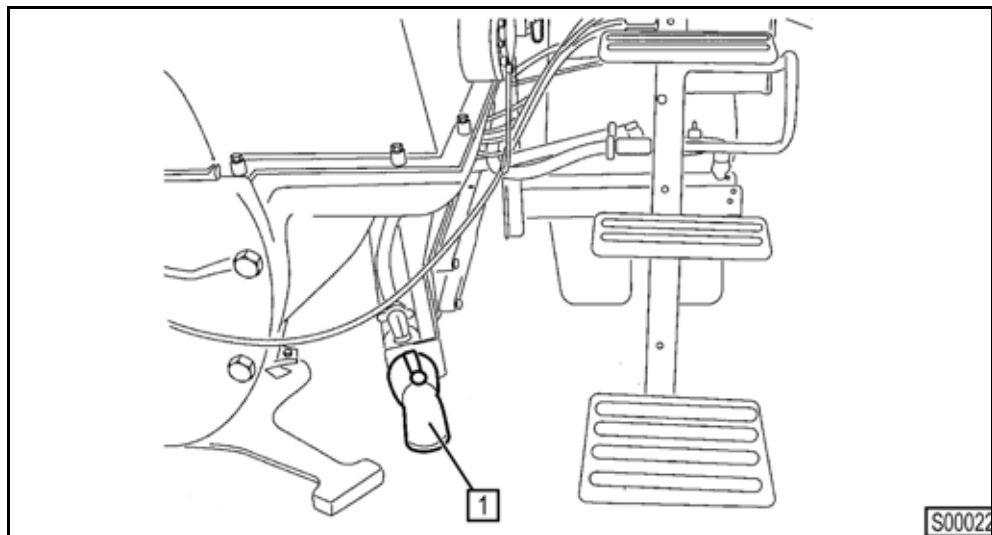

Fig. 187
- Open the drain valve of the concrete pump water box 1 (**Fig. 187**).